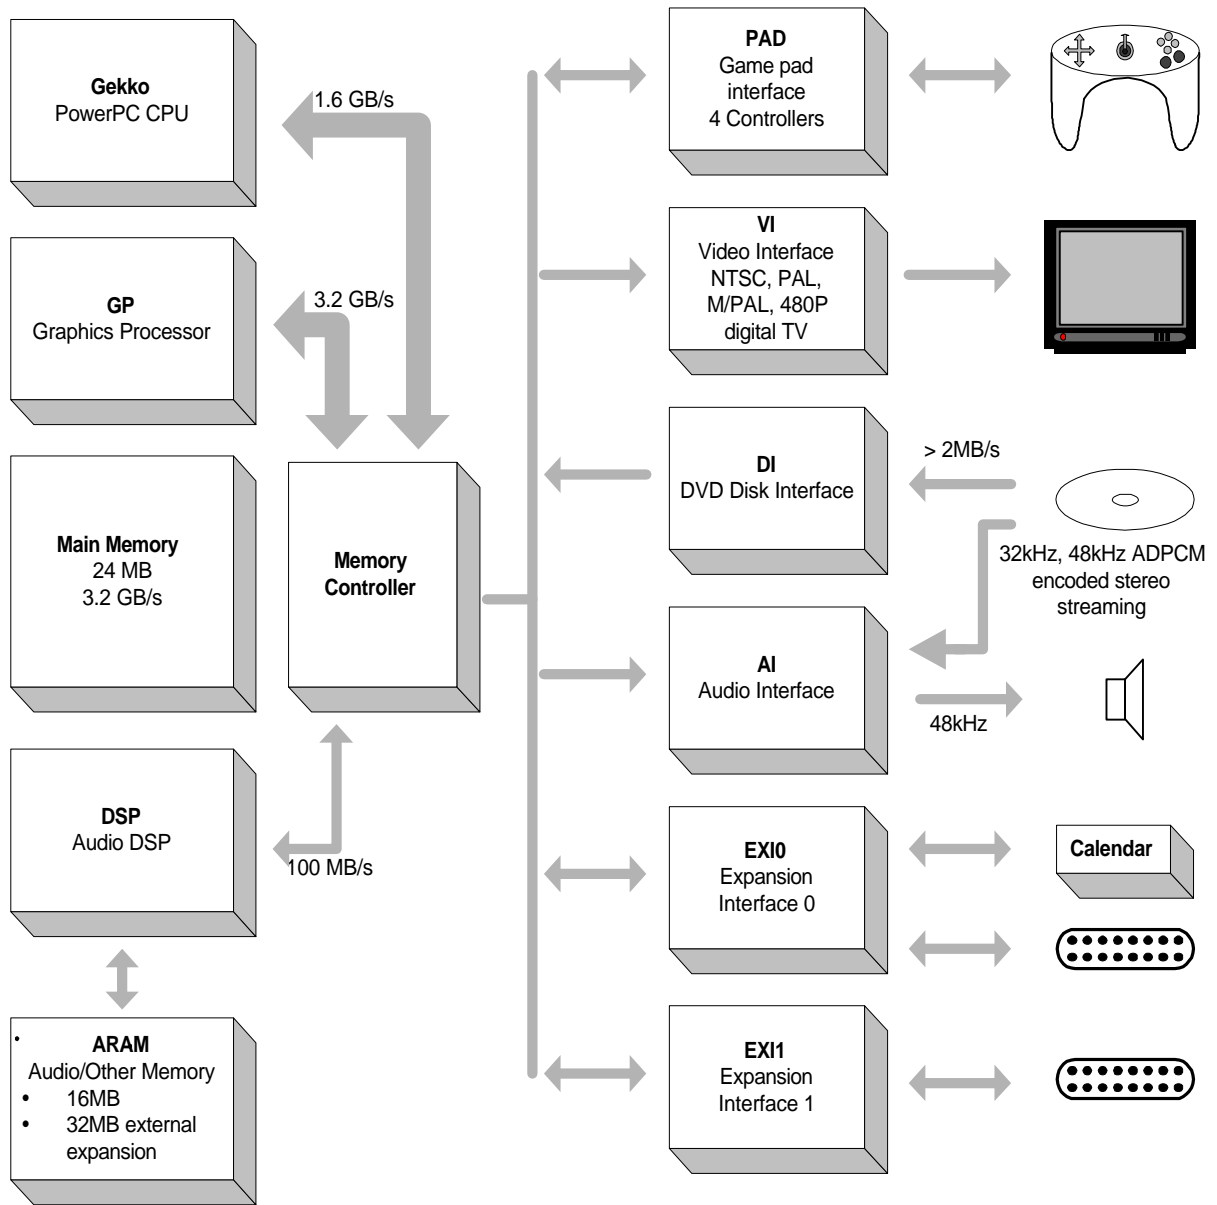

Figure 1 NINTENDO GAMECUBE functional blocks and busses
- Figure 1 System functional blocks and busses3